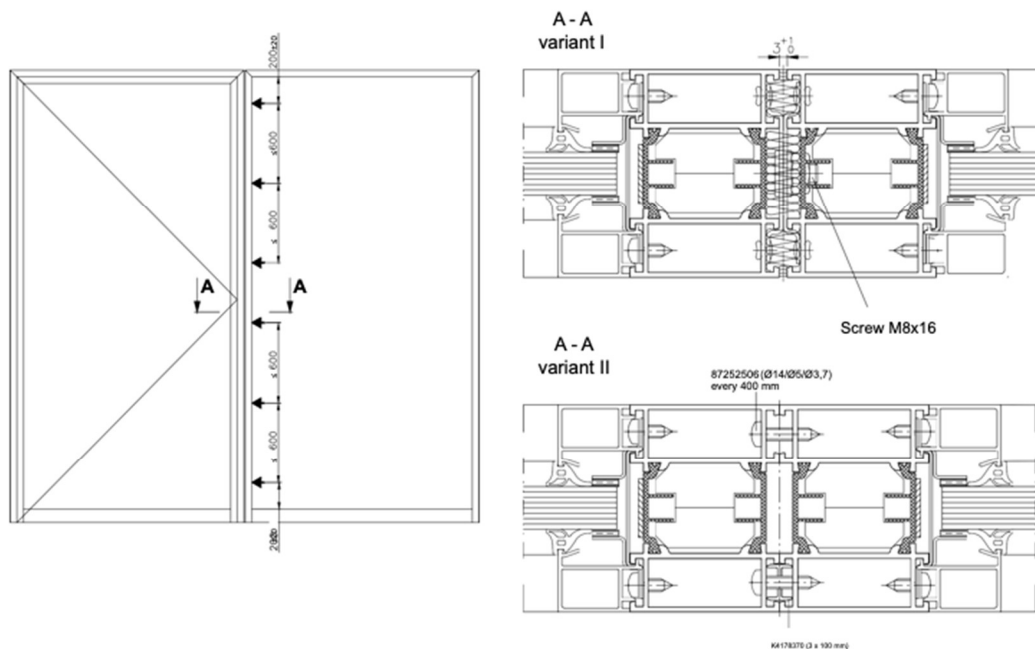

Fig. 20 Screwed connection of fire-rated door system segments (applies to EI30 and EI60 fire resistance classes).
a) variant I – fill the cavities in the frame assembly with soft mineral wool throughout the entire contact length and then screw the frames with M 8 x 16 screws through the elements (catalogue no. 80322073), spaced in accordance with section 4.2.3 and Fig. 18, in the middle chambers of the profiles, in accordance with Fig. 20 (variant I), or,
b) variant II – on one side of one of the frames, stick the 22-mm wide intumescent door seal (catalogue no. 120655) on the entire length and screw the frames with two rows of screws (catalogue no. 87252506) spaced every 400 mm in the outer chambers of the profiles, in accordance with Fig. 20 (variant II),
- twisting of side light elements with the door frame or twisting of wall segments, when supplied as separate frames, shall be in accordance with section 5.1.2 and Fig.20,